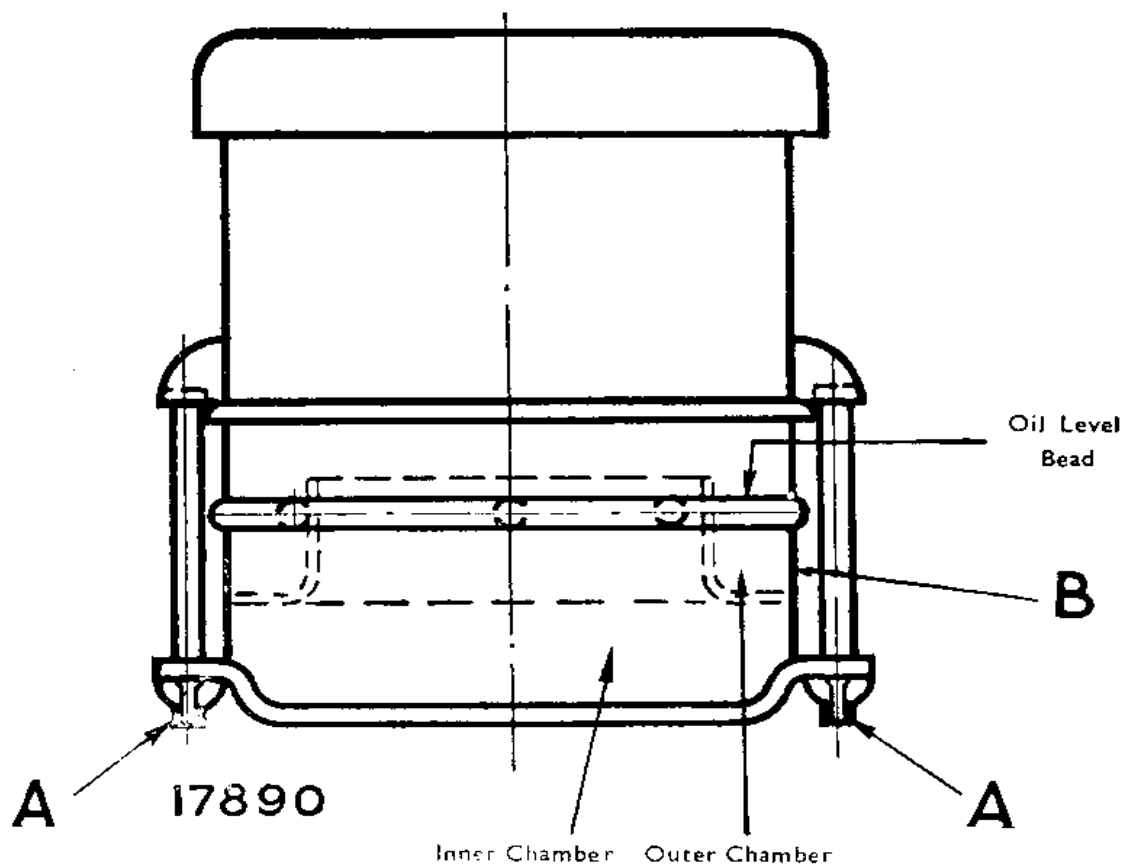

Fig. 5
(See Lubrication Chart, page 11 and Fig 5 for oil level).
- (a) **Examine oil cup daily.** See Fig. 5.